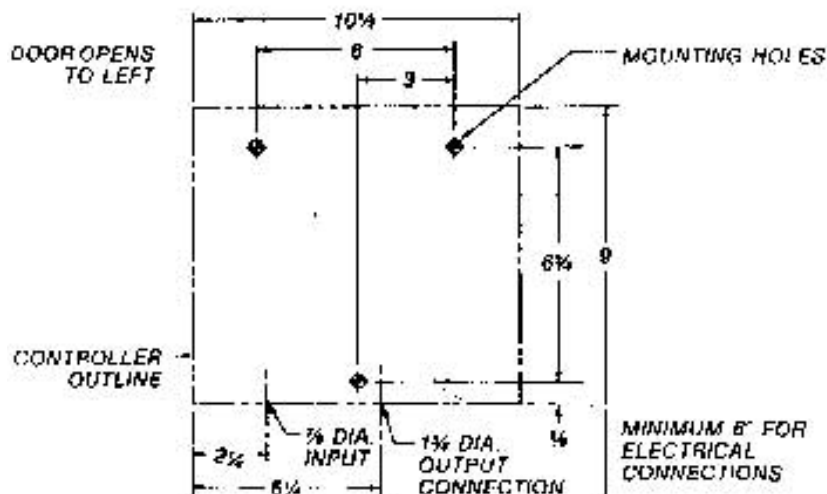

Fig. 2
1. Choose a location that provides a minimum clearance of 12" wide x 15" high. Since the electrical connections are provided at the bottom of the cabinet, clearance should be allowed for the conduit connections, etc. Refer to Figure 2.
3. Position the cabinet on the wall at the desired mounting location, and with a pencil, mark the 3 mounting hole locations on the wall. Or, refer to Figure 2 for dimensions if a direct layout on the wall is desired.